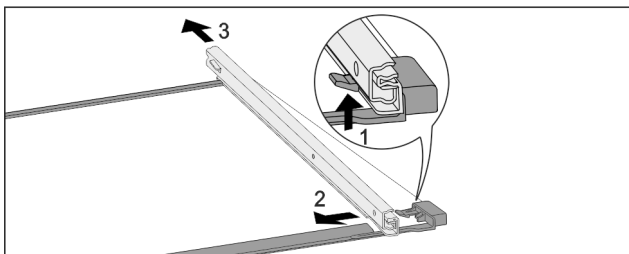

Fig. 194 Glass shelf with rails
- ▶ Push up front click-in hooks. Fig. 194 (1)
- ▶ Move the pull-out rails to the side Fig. 194 (2) and to the rear Fig. 194 (3).